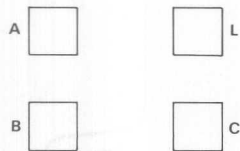

Figure 3-3B. iSBC 614 Cardcage Wirewrap Posts
- 19) Install a wire connecting wirewrap post B to post L on the right-most cardcage. Reference figure 3-3B. More information is available in the *MULTIBUS Interfacing Application Note AP-28*.